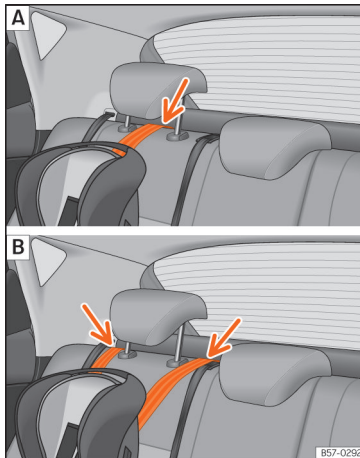

Fig. 26 Rear seats: adjustment and assembly according to the Top Tether belt.
- Place the belt under the headrest of the back seat »» Fig. 26 (depending on the instructions of the chair itself, lift or remove the headrest if necessary).